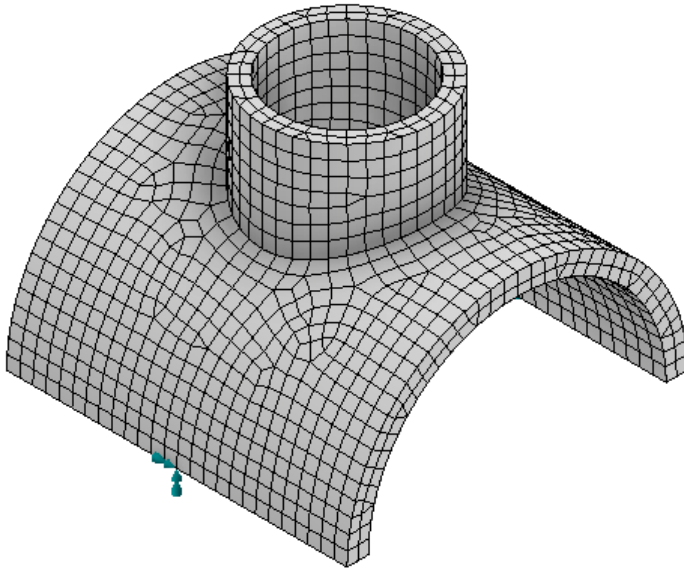

Figure 18 - Shell created on all surfaces of a solid body.
- Shell elements are created from surface bodies. Shell elements are like a piece of paper: they have area but no thickness. (The thickness is represented mathematically by entering the thickness in the idealization.) See Figure 16 and Figure 17 for the correct matching of shell elements to surface geometry. Although it is possible to select the surface of a solid body to create shell elements, in most cases this creates the wrong type of model. See Figure 18 and Figure 19 for incorrect use of creating shell elements from a solid body. (The only situation when it is correct to create shells from a solid body is when the shell is like a “paint” on the surface of a solid.)